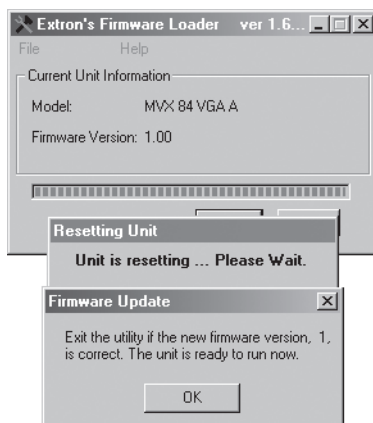

Figure 4-10 — Firmware Loader status indicator bar, switcher reset, and firmware update
- Click the *Open* button. A status bar, which shows the progress of the upload, appears in the Firmware Loader window (figure 4-10). The firmware upload to the switcher may take several minutes.
Once the status bar has progressed fully from left to right across the indicator window, the firmware loader utility automatically resets the switcher (figure 4-10).